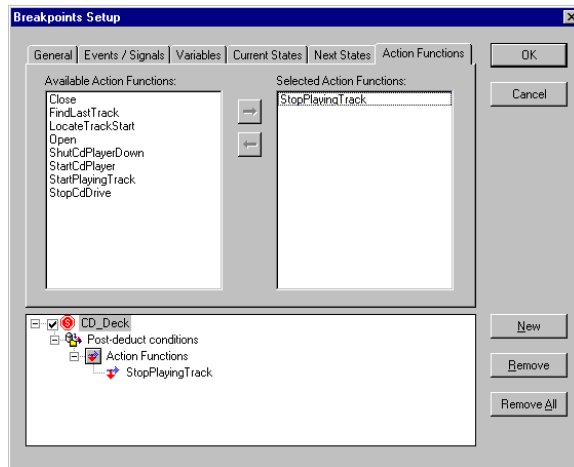

Figure 141: Breakpoints Setup dialog box, Action Functions tab (Validator)
- 1 Choose Edit>Breakpoints. In the Breakpoints Setup dialog box, click the Action Functions tab. See *Figure 141*, page 174.